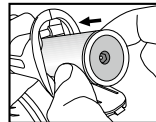

Fig.2.1
1. Remove **Fuel Cartridge Chamber Cap** at bottom of TG-600V. (Fig. 2.1)